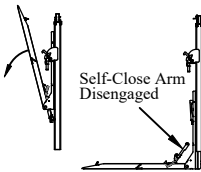

Figure 7: Step 9.
Step 9. To lower the platform, stand off to the side, well clear of the platform and push down on the control toggle switch. Allow the platform self-close arm to unfold the platform to the horizontal position as it lowers. Check to make sure the self-close arm has returned to the disengaged position (Figure 7).